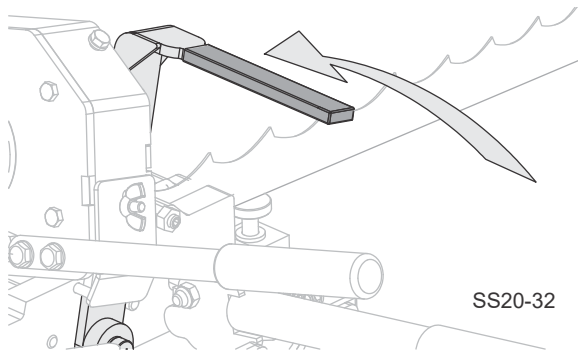

FIG. 3-11
- Advance one tooth by moving the push pawl handle left and right. \(See fig. 3-11.\) Recheck the position with the grinding wheel. \(See fig. 3-6.\)